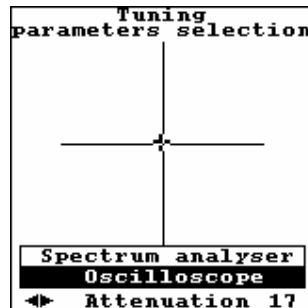

Fig. 15
2. The **Tuning parameters selection** submode with the gain-phase plane appears on the Display (Fig. 15). "+" marker shows the current impedance value on the gain-phase plane. A menu to select **Spectrum analyser** and **Oscilloscope** appears at the bottom of the screen. The last string shows the **Attenuation** parameter and its current value.